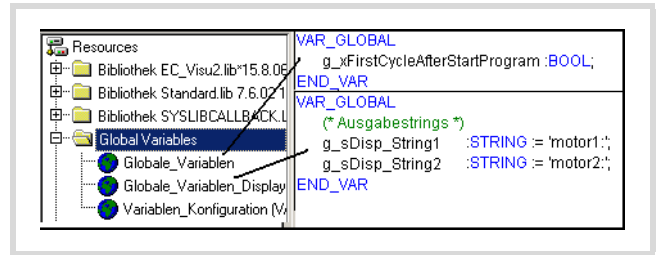

Figure 95: Declaration of display variables
- Declaration of the (display) variables to display entry in the list "Global_Variables_Display" → figure 95
► First declare for each text element that you wish to display, such as "motor1", a variable of type "String" in the "Global_Variables_Display" list as shown in the following example (see also figure 95):
- Set an auxiliary variable "g_xFirstCycleAfterStartProgram" in this program that you reset after the first cycle is completed. The auxiliary variable must be declared globally → figure 95.